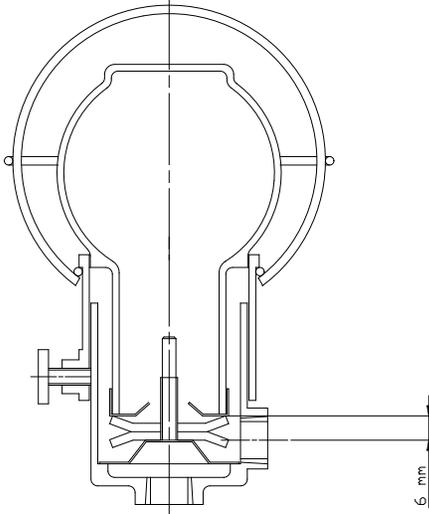

Figure 5-6
- Release thumb screw and remove bottle. Establish a measurement of 6 mm (0.24 in.) from the center line of the oiler connection in the bearing housing to the upper cross arm; this can be obtained by completely screwing down the lower arm as illustrated in figure 5-6.